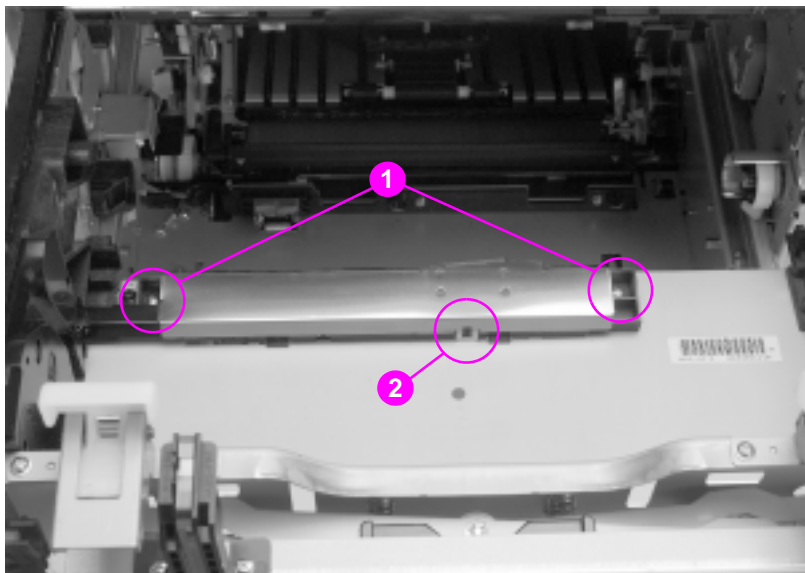

Figure 6-22 Densitometer removal and replacement (1 of 2)
- 2 Remove the two screws on the densitometer as shown in Figure 6-22 (callout 1).